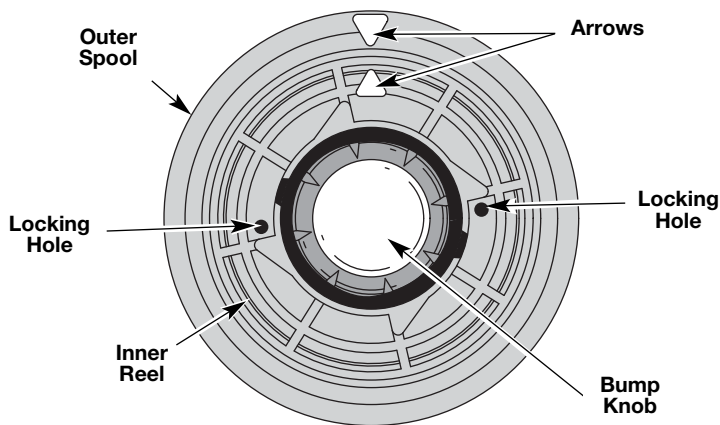
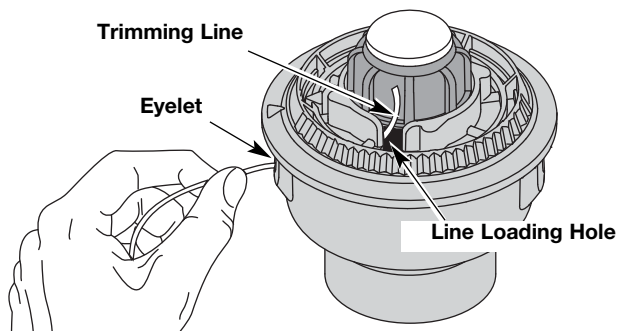

Fig. 12
Fig. 13
2. Hold the outer spool and turn the inner reel counterclockwise to line up the arrows on the outer spool and inner reel (Fig. 12).
3. Detach old line ends from locking holes (Fig. 12) and pull old line out through reel eyelets (Fig. 13).
4. Making sure arrows are aligned, insert the end of a piece of trimming line straight into one of the two eyelets in the outer spool. Push it up through the line loading hole in the inner reel (Fig. 13). Do not bend the line when inserting it into the eyelet.